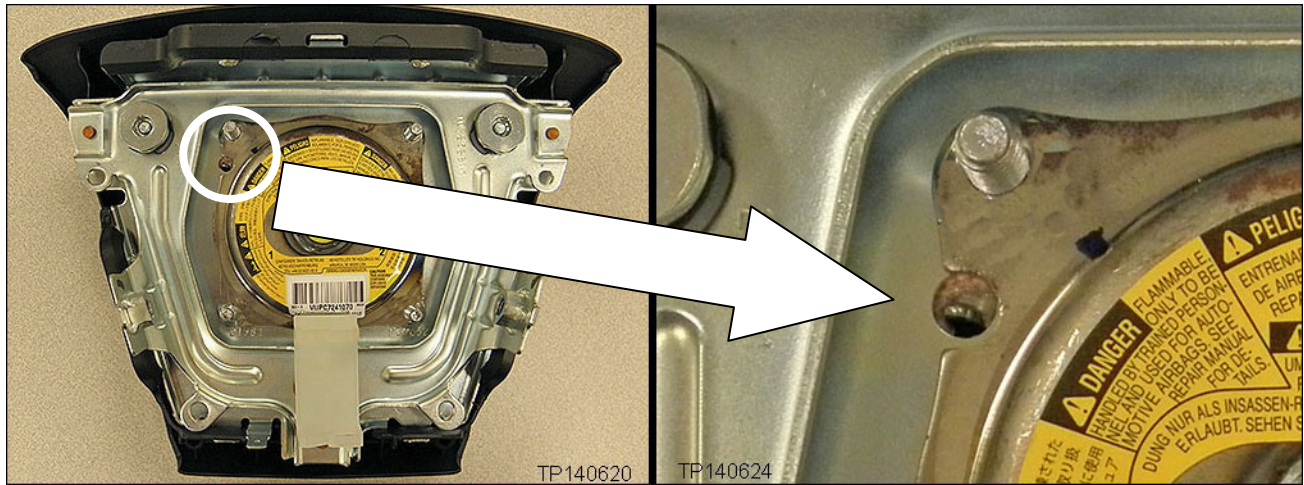

Figure 6
- CAUTION: Make sure the notch on the inflator is aligned with the tab on the module (see Figure 6).